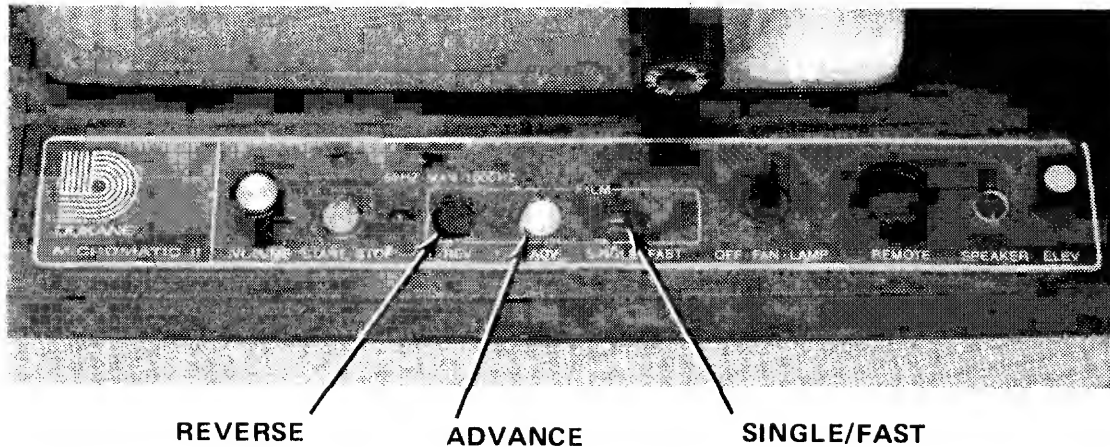

FIGURE 3
3. Slide the film speed control switch to the FAST position. While pushing the filmstrip into the carrier, advance the filmstrip by pressing the film advance button (Figure 3) until the FOCUS frame appears on the screen.
NOTE: The advance and rewind controls for filmstrip are located on the film control panel. To advance the filmstrip rapidly, move the film speed switch to the FAST position and press the film advance button. For rapid rewind, press the film reverse button. To advance or rewind the filmstrip one frame at a time, move the film speed switch on the control panel to the SINGLE position and follow the same procedure for forward and reverse operation (Figure 3).